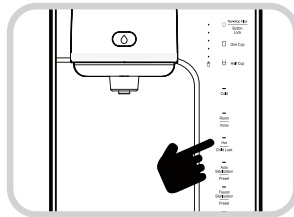

Fig. 5
1. Select the hot water by pressing the Hot/Hot Water Lock button. (Fig. 5).
- Keep pressing the Out Flow button for two (2) seconds or more and the out flow will change to Manual Out Flow status.